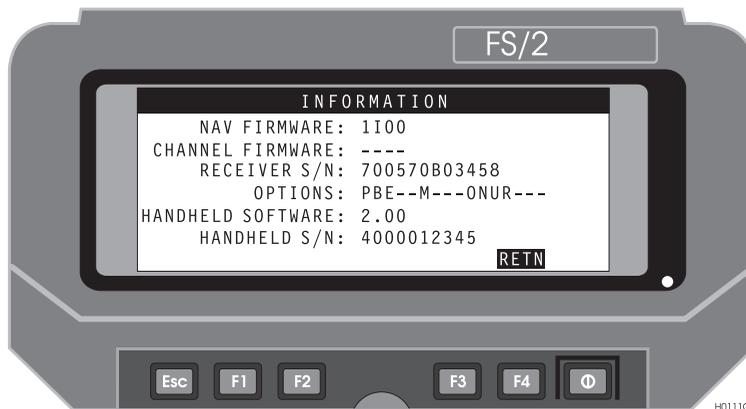

Figure 3.6: Information Screen
1. From the FAMlog screen, press **F1** to call the Information screen, Figure 3.6.